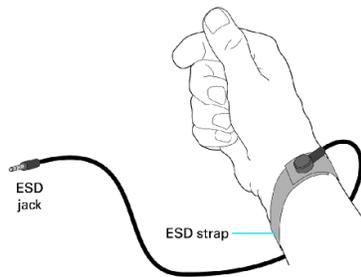

Figure 1 – Electrostatic discharge protection strap.
- If available in your laboratory, wear an ESD strap (Figure 1) connected to a proper ground when handling parts.